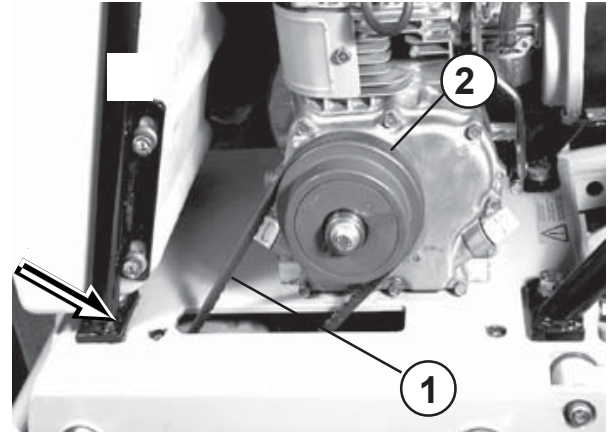

Figure 40
- Apply a force of approx. 100 N and press the V-belt down as shown in figure 40. The V-belt's deflection should be approx. **10 mm**.